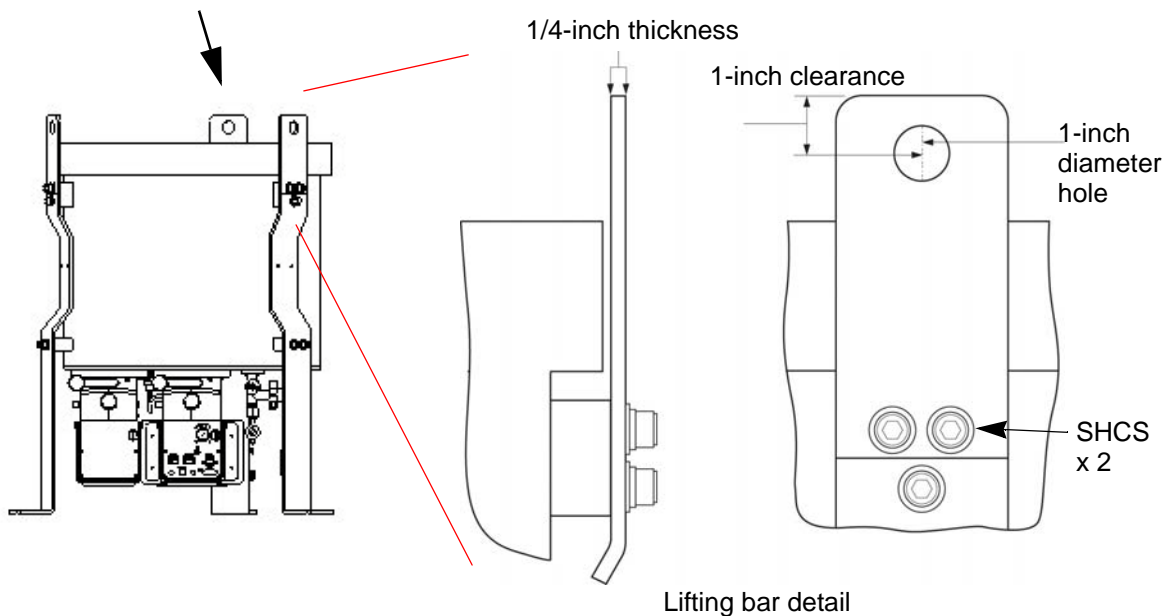

Figure 2-6: Lifting Bars
Note: Each lifting bar is 1/4-inch thick with a 1-inch diameter hole and 1-inch clearance. Refer to Figure 2-6.
3. Before installing the cryopump on the tool, first remove the lifting bars from the support legs. Use a 3/8-inch Allen wrench to remove the 2 SHCSs, with washer and lock washer, that secure each of the 3 lifting bars. Refer to Figure 2-6.